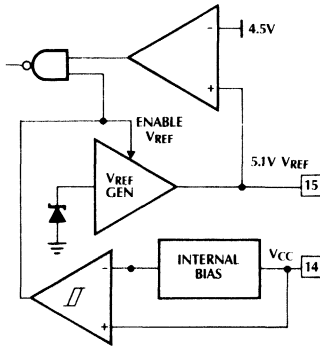

Figure 10. Under-Voltage Lockout Circuit
When the current (sensed on pin 9) reaches the 1.5V limit, the PWM cycle is terminated. The flip flop (figure 10) turns on current source I(1) to charge CRST and remains on until CLOCK goes high. The magnitude of current source I(1) is  $.25 \times I_{SET}$  where ISET is the oscillator charging current. When CRST has charged to 2.3V, a soft start reset occurs. The number of times the PWM cycle is terminated due to over-current is "remembered" on C(RST). Over time, C(RST) is discharged by R(RST) providing a measure of "forgetting" when the over-current condition no longer occurs.